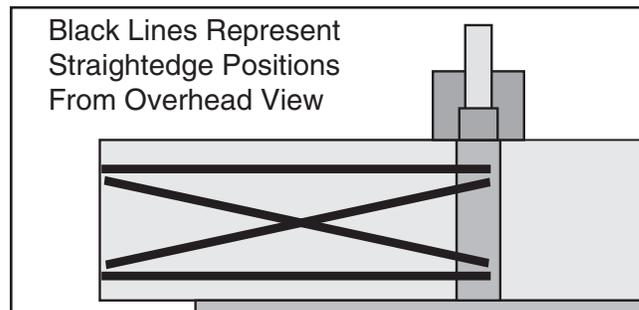

Figure 69. Straightedge positions for verifying if outfeed table is parallel with cutterhead.
6. Place straightedge in positions shown in **Figure 69**. In each position, straightedge should touch cutterhead and sit flat on outfeed table.